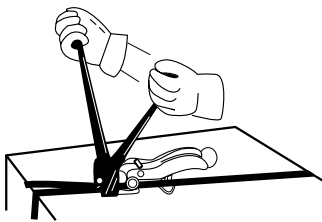

Figure 1
1. Fully open the sealer handles and center the open jaws on the seal. (Figure 1)